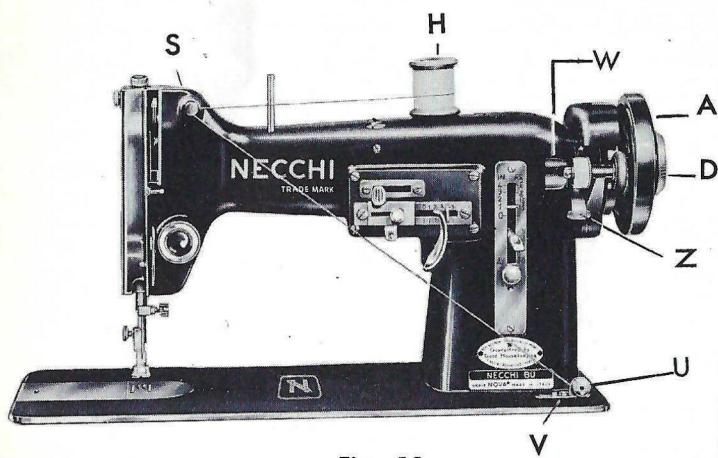

Fig. 13
- a. Disconnect balance wheel "A" (Fig. 13) from sewing mechanism by holding wheel with left hand and turning stop motion knob "D" toward you with right hand, until knob feels loose.